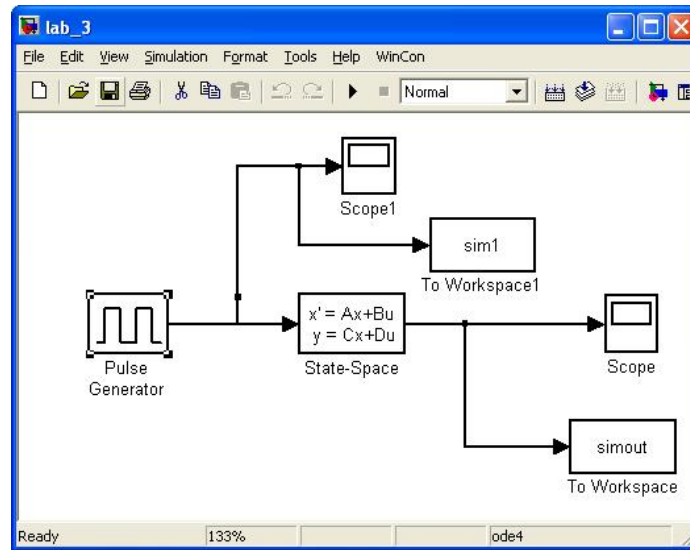

Figure 3.2: Simulink model for Lab 3
3. Prepare the Simulink model shown in Figure 3.2.